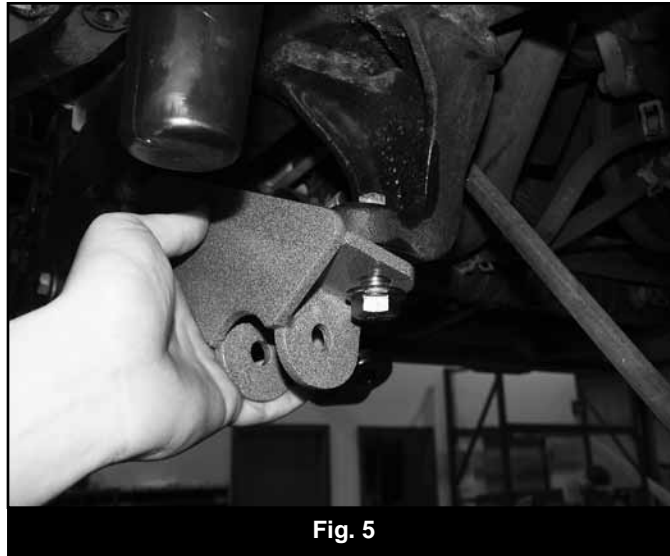

Fig. 5
12. Attach the provided front track bar bracket (01359) to the original frame mount with a 9/16" x 2" bolt, nut and 9/16" SAE washer (BP 753). Place the washer on the bolt and run the bolt from the bottom up through the OE mount and fasten with the nut (Fig 5).